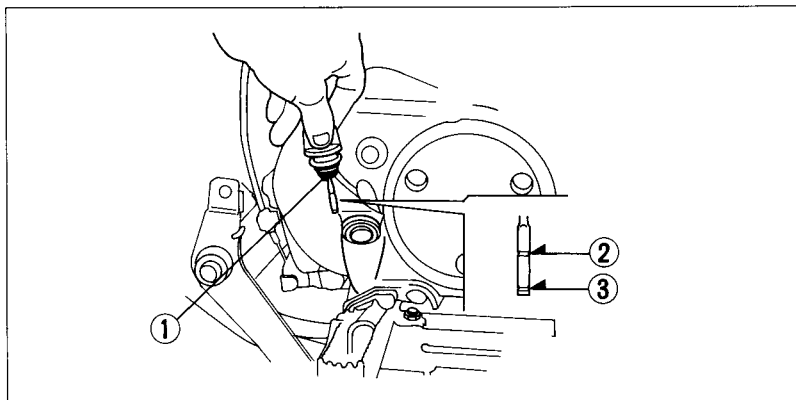

Fig. 2-16
The oil filler cap/dipstick (Fig. 2-16), on the right crankcase cover, is used to measure the oil level. The oil should be checked each day before operating the FOURTRAX and maintained between the upper level mark (2) and the lower level mark (3).